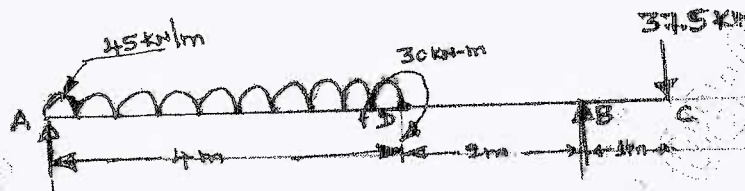

Fig Q5
- 5 For the beam shown in Fig. Q5. Draw shear force and bending moment diagrams. Locate the point of contraflexure if any. (16 Marks)